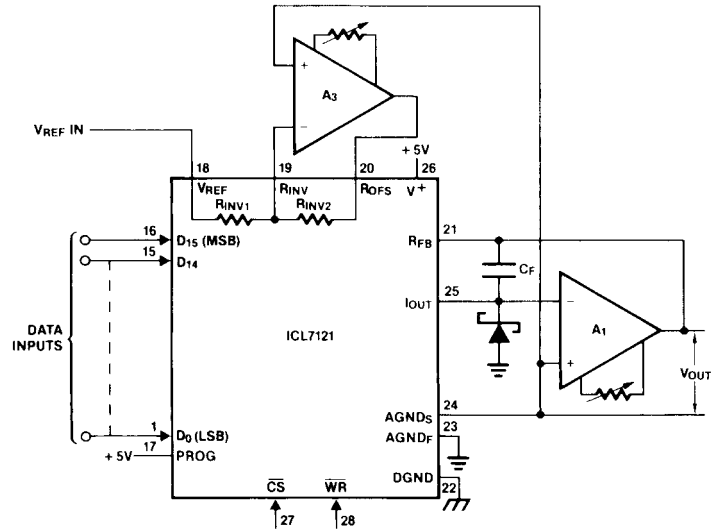

FIGURE 1. BIPOLAR OPERATION, FOUR-QUADRANT
6. Refer to Figure 1. Measured at output amplifier A1 (A1 having zero offset).  $V_{REF} = +5V$ . Adjustable to zero with external potentiometer.
The circuit diagram for the normal configuration of the ICL7121 is shown in Figure 1. The positive and negative reference voltages allow full four-quadrant multiplication. Amplifier  $A_3$ , together with the internal resistors  $R_{INV1}$  and  $R_{INV2}$ , forms a simple voltage inverter circuit to generate  $-V_{REF}$  for the  $R_{OFS}$  offset input pin. This will give the nominal “digital input code/analog output value” relationship of Table 1. Note that the value of  $R_{FB}$  is equal to  $2R$  so full scale range is  $2V_{REF}$ .